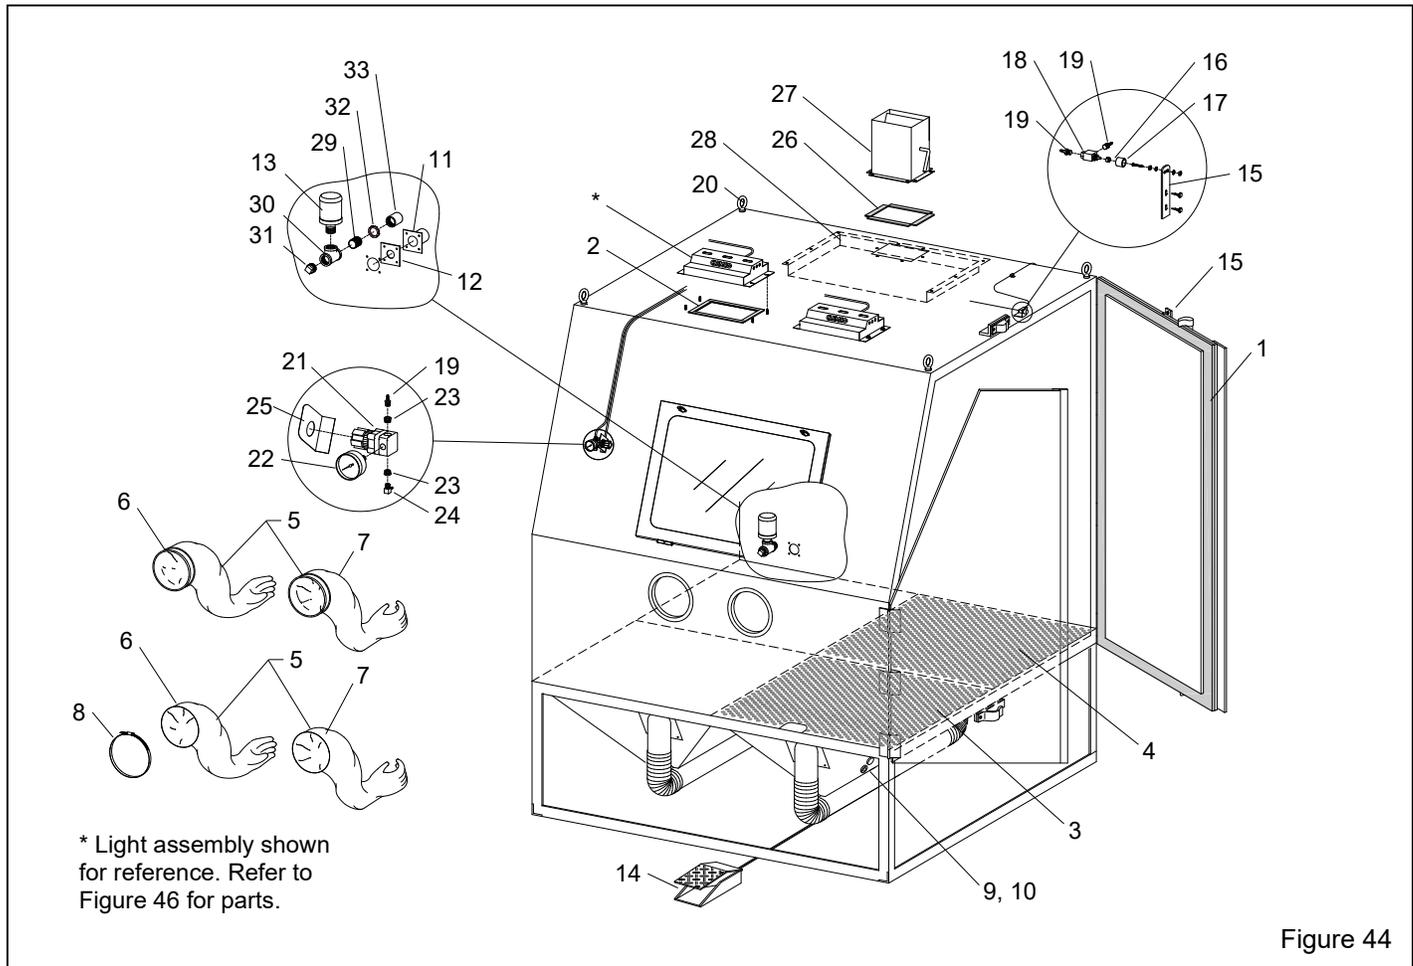

Figure 44
9.2 Cabinet Replacement Parts – Figure 44